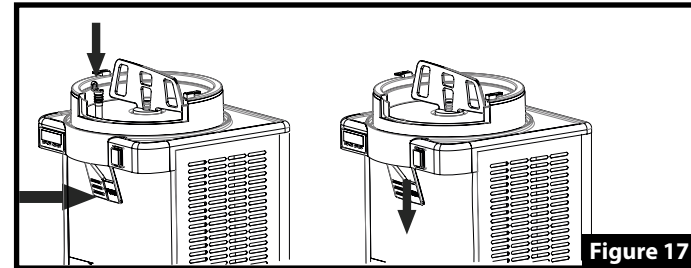

Figure 17
4. Mount the faucet hose on the steel plate and body. **"Figure 17"**.